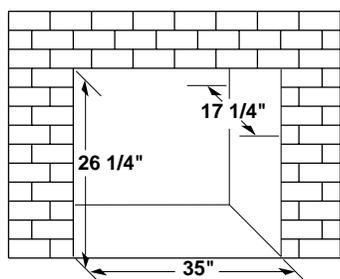

Figure 13 - Rough Opening for Installing Masonry Fireplace
1. Use dimensions shown in Figure 13 for the masonry fireplace opening.